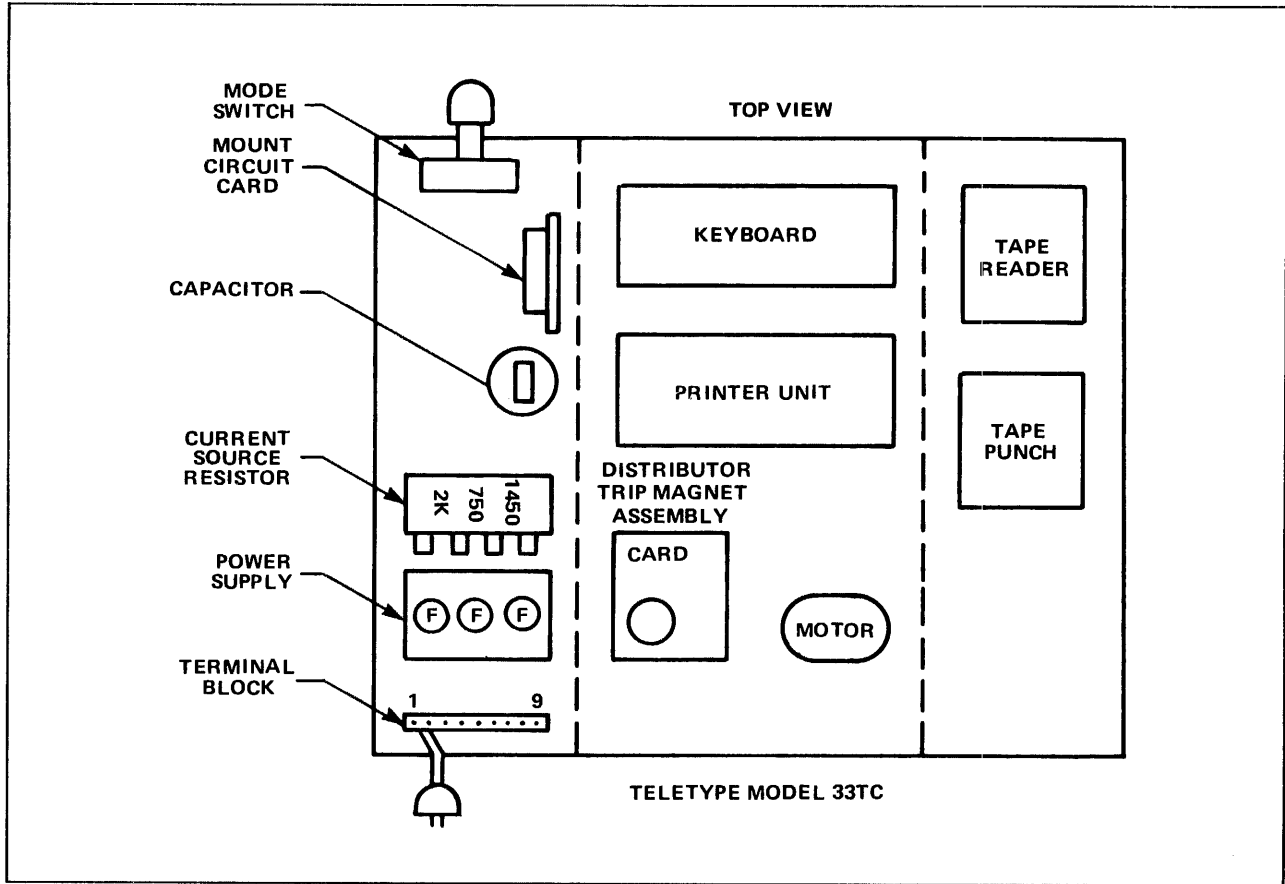

Figure E-1. Teletype Component Layout
- a. Remove blue lead from 750-ohm tap on current source register; reconnect this lead to 1450-ohm tap. (Refer to figures E-1 and E-2.)
- b. On terminal block, change two wires as follows to create an internal full-duplex loop (refer to figures E-1 and E-3):